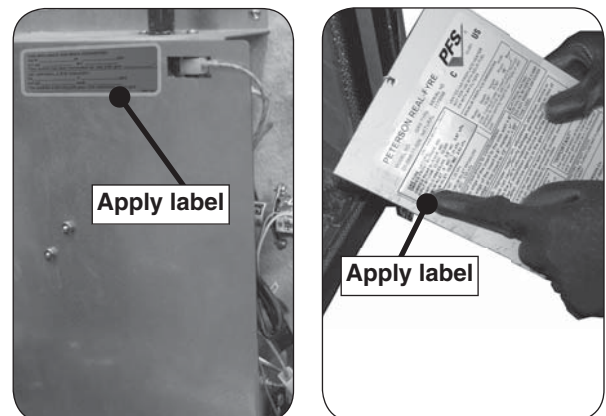

Fig. 3-3 Apply label
1. Fill out the supplied identification label, then apply it in an area near the valve where it can be easily seen (see Fig. 3-3).
2. Locate the rating plate in the right side of the insert. Cut to size then apply the supplied rating plate addendum label over the existing label as shown in Fig. 3-3.